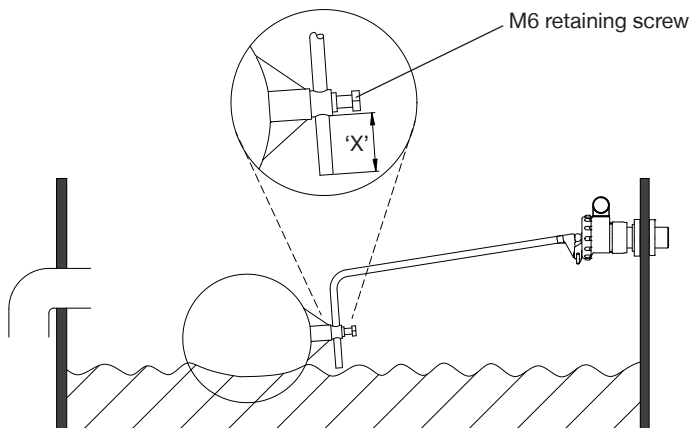

Fig. 16
7.16 **Float fill valve:** The float level is factory set but if in time the water level in the tank is found to be too high, the level can be adjusted by moving the float assembly on the arm of the fill valve down (see Fig. 16). Access the float fill valve by removing the lid of the tank (see Section 3 - Key Features). This is done by loosening the M6 retaining screw and sliding the float assembly down (reduce dimension X), the M6 screw is then retightened ensuring the float is still in line with the arm.